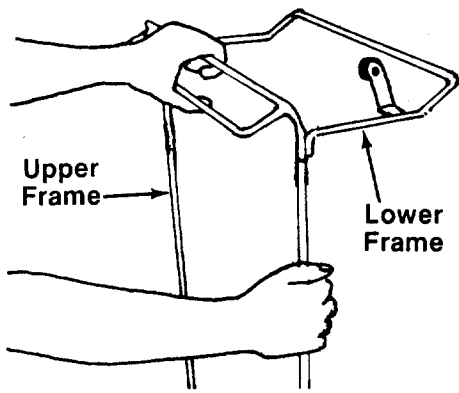

FIGURE 13.
2. Join the upper frame and lower frame assembly as shown in figure 13.